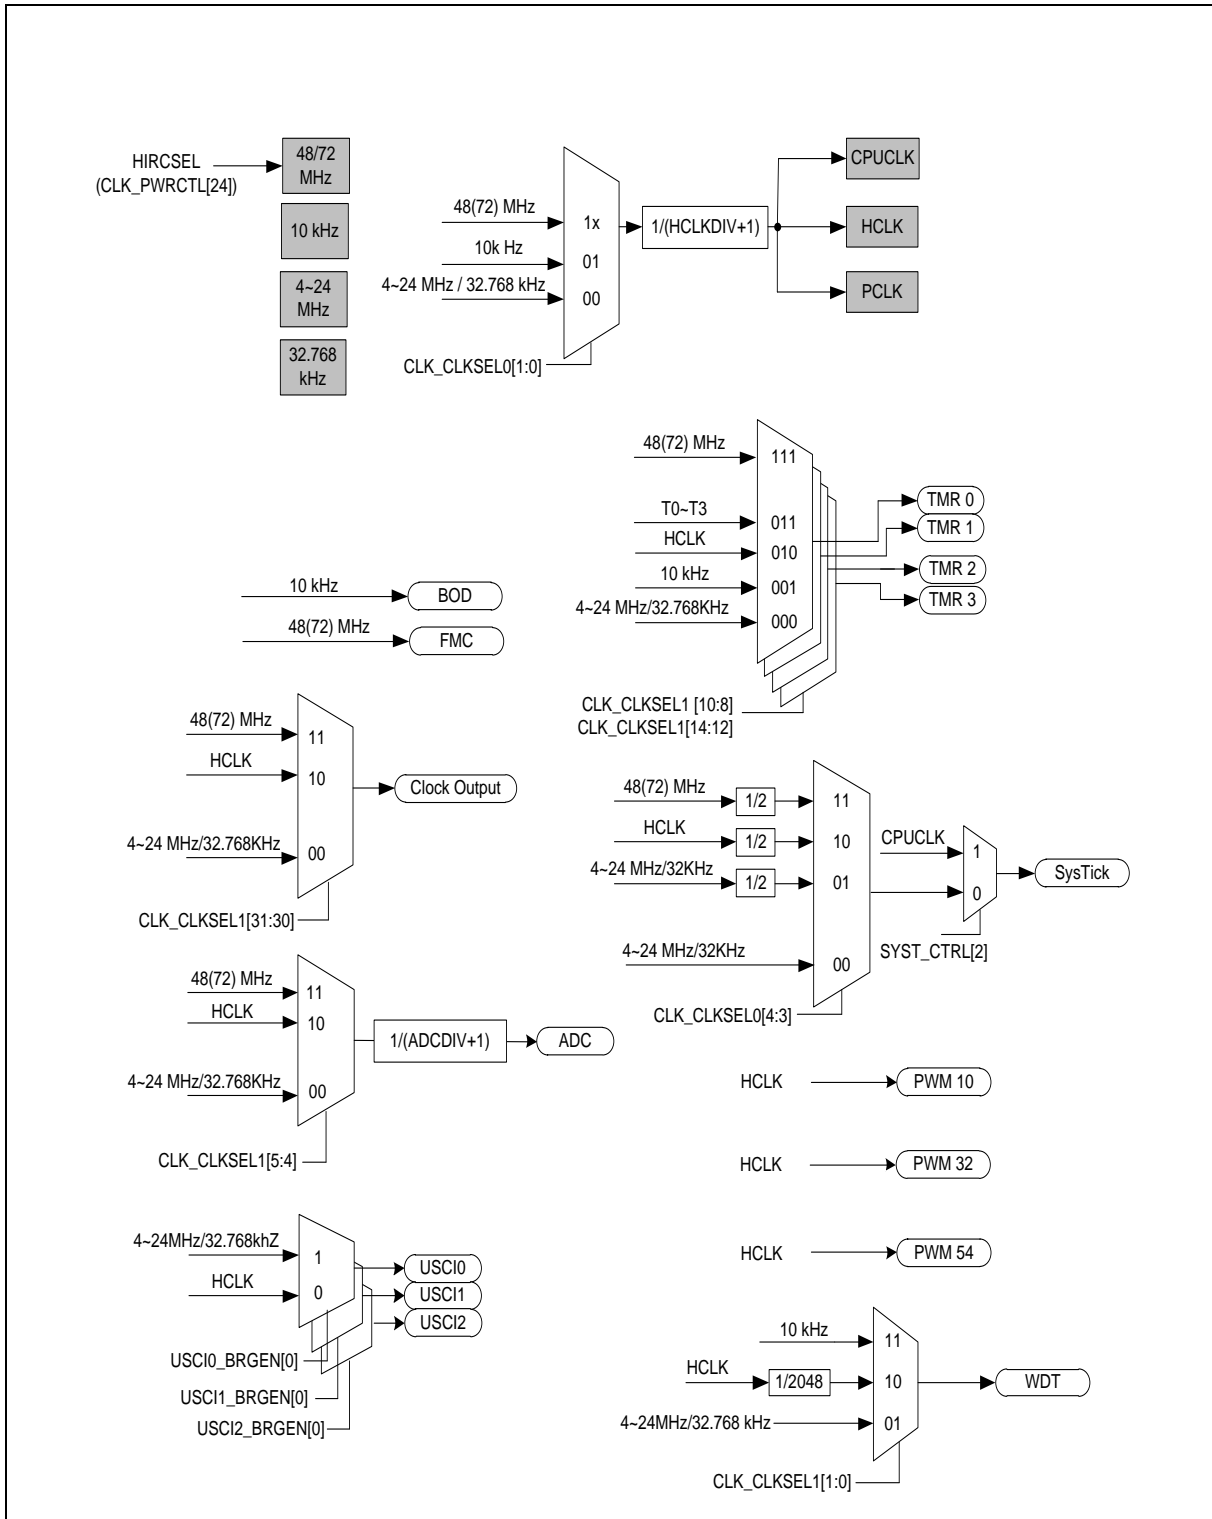

Figure 6.3-1 Clock Generator Global View Diagram
The clock controller generates clocks for the whole chip, including system clocks and all peripheral clocks. The clock controller also implements the power control function with the individually clock ON/OFF control, clock source selection and clock divider. The chip enters Power-down mode when the Cortex[®]-M0 core executes the WFI instruction only if the PDEN (CLK_PWRCTL[7]) bit set to 1. After that, chip enters Power-down mode and waits for wake-up interrupt source triggered to exit Power-down mode. In Power-down mode, the clock controller turns off the 4~24 MHz external high speed crystal (HXT) and 48(72) MHz internal high speed RC oscillator (HIRC) to reduce the overall system power consumption. Figure 6.3-1 shows the clock generator and the overview of the clock source control.